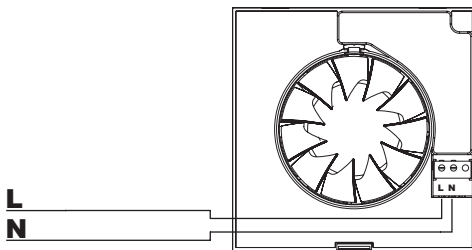

Fig.9
**Case 1:** Automatic operation (fig.9)
Models provided with a PIR (passive infrared) detector. The unit starts automatically when a movement is detected with a maximum distance of 4 metres (fig.9).